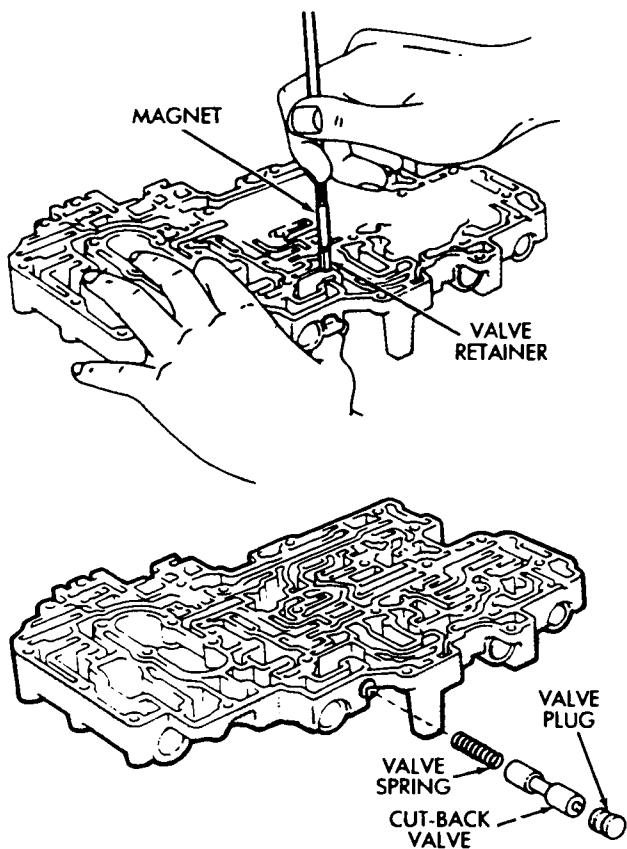

Fig. 11 Removing/Installing Cut-Back Valve
- (5) Install cut-back valve spring, valve and plug (Fig. 11). Press plug inward and install retainer.